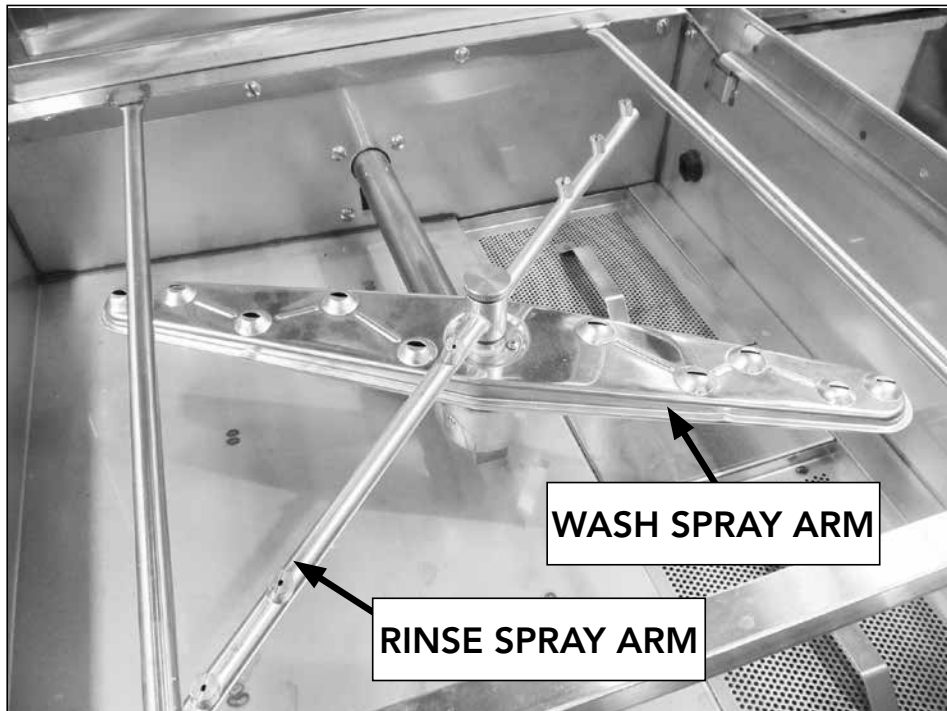

Fig. 7
4. Remove the upper and lower wash and rinse spray arms and flush with clean water (Fig. 7).